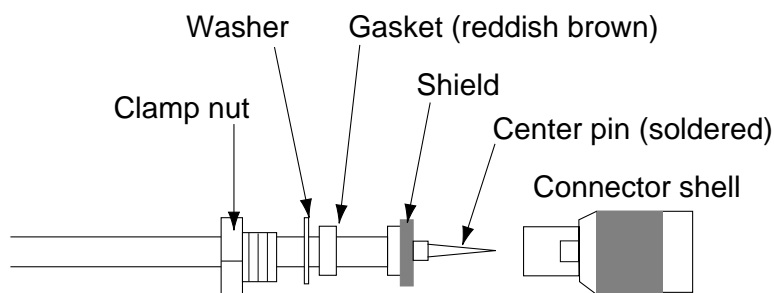

Figure 1-4 How to assemble the connector
- If the antenna cable is to be passed through a hole which is not large enough to pass the connector, you may unfasten the connector with a needle nose pliers and 3/8-inch open-end wrench. Re-fasten it as shown in Figure 1-4 after running the cable through the hole.